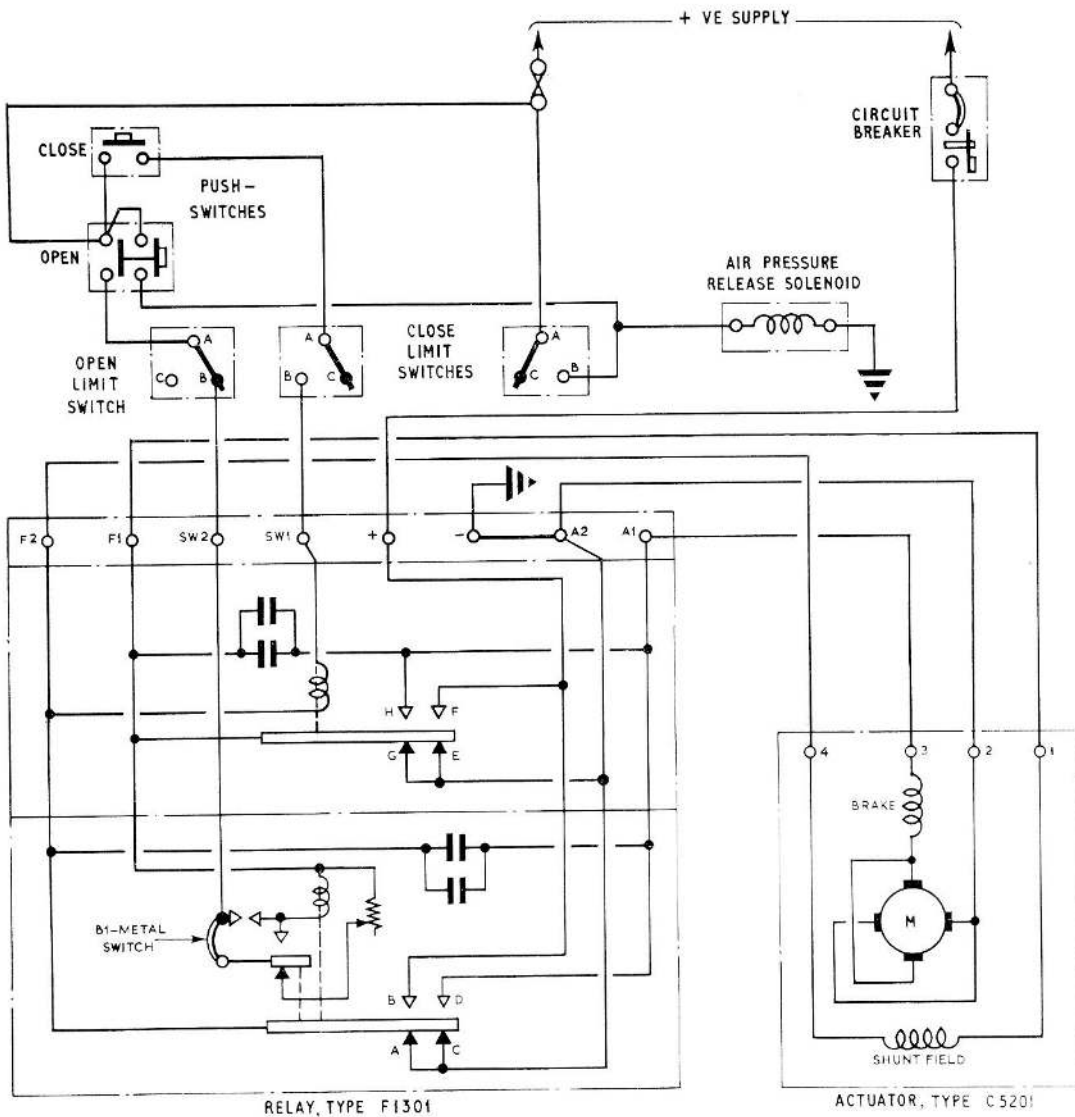
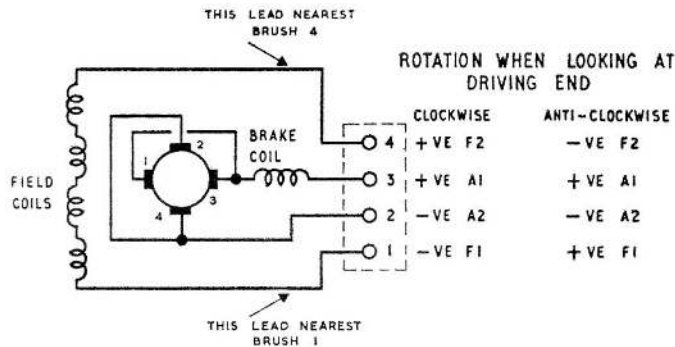

Fig. 3. Typical cabin hood control circuit
Fig. 4. Diagram of internal connections
4. The brush gear assembly incorporates four brushes connected as shown in the typical circuit diagram in fig. 3 and diagram of internal connections in fig. 4. Access to the brushes is gained by removing the brush inspection cover, and the connections from the aircraft electrical supply are made to either a terminal block or a plug situated on the motor cover.
7. The actuator is normally controlled by a relay in the F1300 series, information on which will be found in A.P.4343C, Vol. 1, Book 2. This relay incorporates two operating coils, one for clockwise rotation and the other for anti-clockwise rotation of the actuator, which are energized by operation of the appropriate external push-switch. The relay shown in fig. 3 is the Type F1301, which incorporates a time delay to allow deflation of the hood seal to take place before the cabin hood is opened. This time delay is adjustable to cater for cable voltage drop. A similar relay, the Type F1302, may